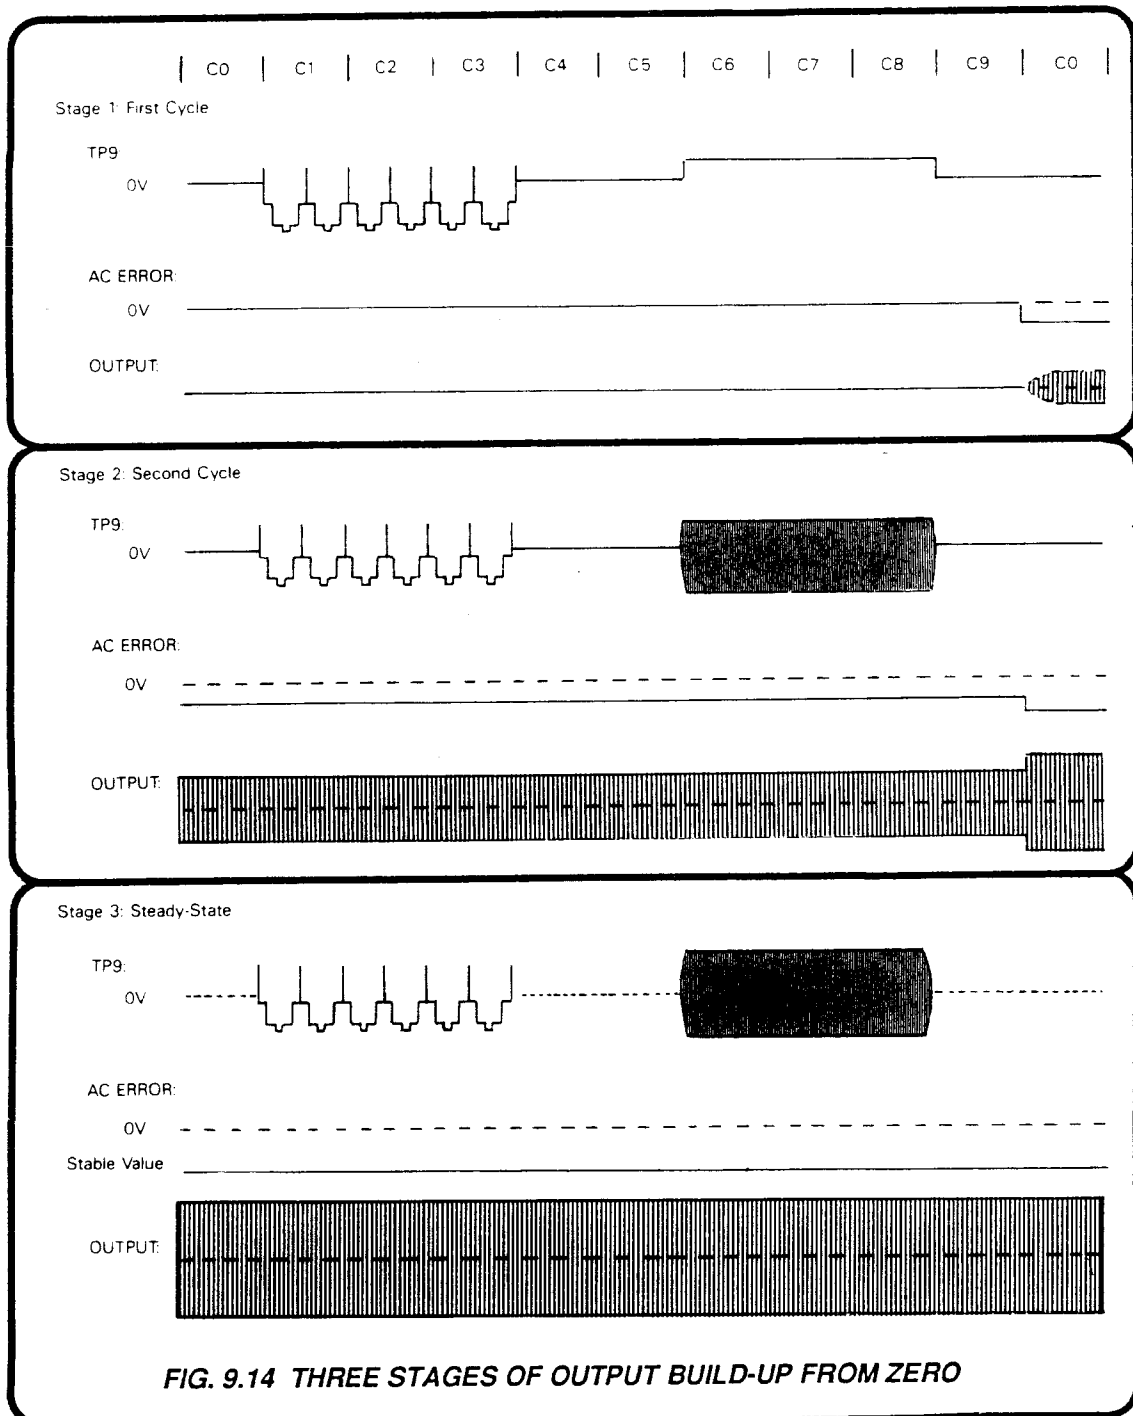

FIG. 9.14 THREE STAGES OF OUTPUT BUILD-UP FROM ZERO
*Fig. 9.14* illustrates three stages in the process of increasing output from zero; observing the current in R35 (ie. the voltage at TP9), the 'AC ERROR' signal, and the output sinewave. The waveforms are not to scale.